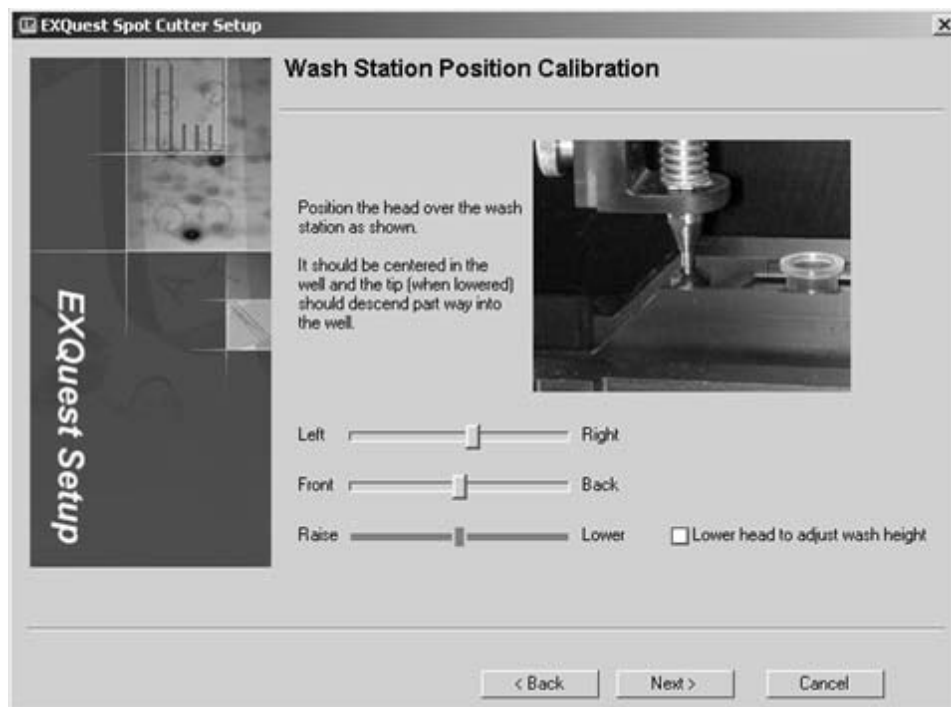

Figure 3-13. Wash station position calibration.
- a. Use the **Left/Right** and **Front/Back** slider to center the cutting tip over the wash port. The gel tip is centered over the left wash port (see Figure 3-13) and the membrane tip is centered over the microtube in the left membrane tip wash port. Click on the slider bar to move the tip in small increments or click and drag the slider to make larger adjustments. When the tip is centered, check **Lower head to adjust eject height** to lower the cutting tip into the well. Use the sliders to center the tip into the well.